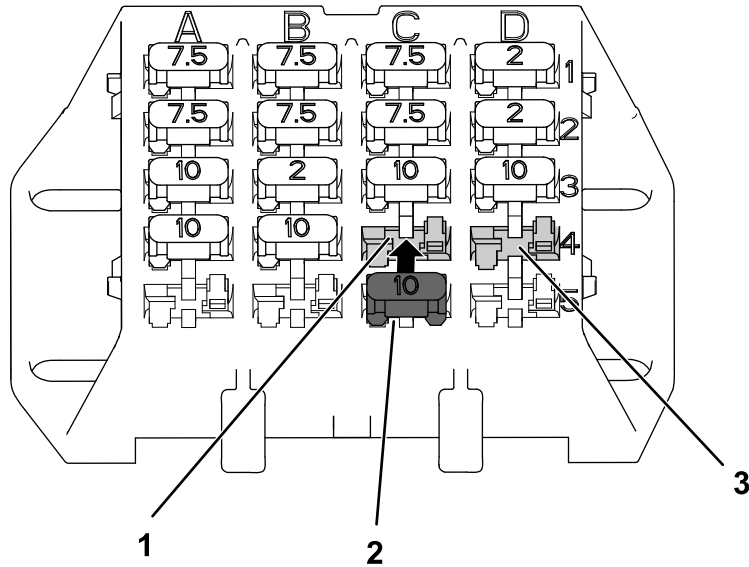

Figure 13
1. Install the fuse into the C4 slot in the fuse box (Figure 13).